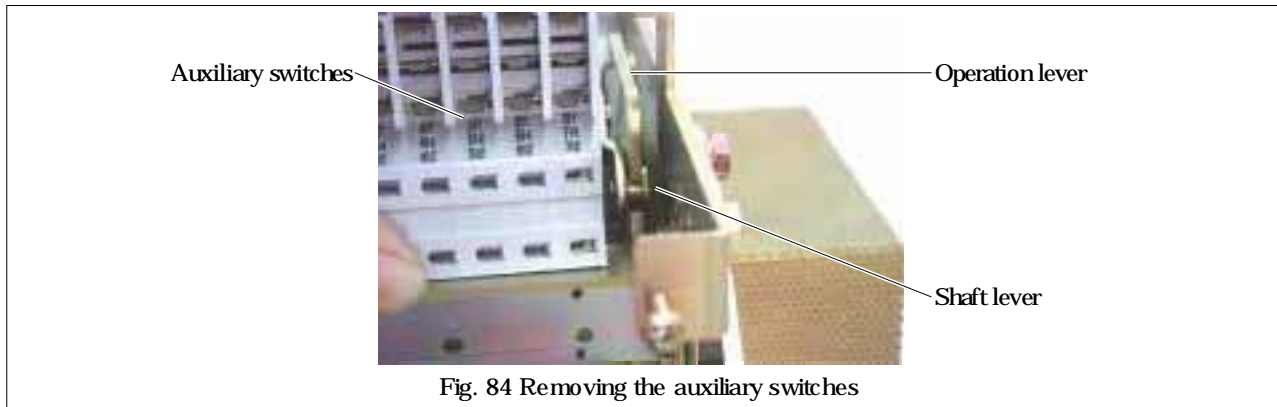

Fig. 84 Removing the auxiliary switches
5) With the operation lever raised, uplift the auxiliary switch unit, pull the shaft lever through the U-notch, and remove the auxiliary switch unit. See Fig. 84.